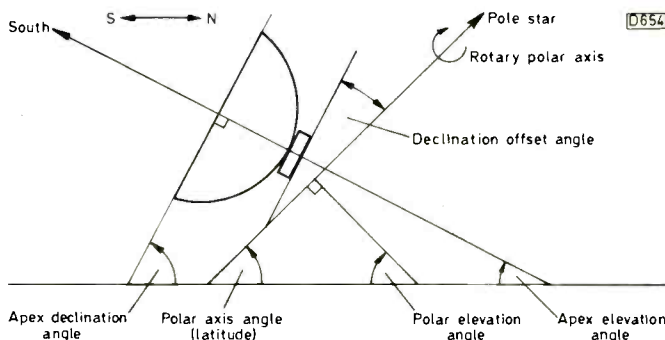

Fig. 17: Polar mount angles.
The following terms are used in connection with polar mounts (see Fig.17). (1) Polar axis angle. This is the latitude of the receiving site in degrees. (2) Polar elevation angle. This is 90° minus the polar axis angle. (3) Apex declination angle. This is the polar axis angle plus the declination offset angle. (4) Apex elevation angle. This is 90° minus the apex declination angle.
These angles are set with the aerial mount in the "apex position", i.e. facing due south. This position corresponds with the mid-point of the aerial's travel around its polar axis: it's the highest elevation attainable with a given polar axis setting. The relationship between these angles and the aerial mount is shown, for a prime-focus dish, in Fig. 17. When measuring these angles with an offset-focus dish remember to correct for the quoted aerial offset angle or elevation reduction angle.